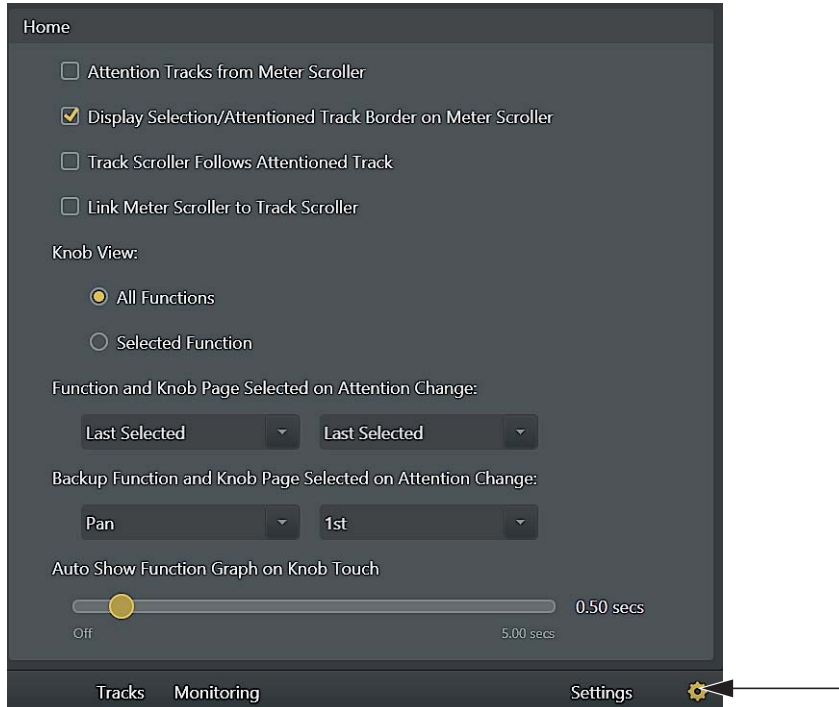

Figure 26. Home Screen Options with Local Options icon on the right
- Touch the Local Options icon on the bottom-right of the Home screen (see Figure 26).